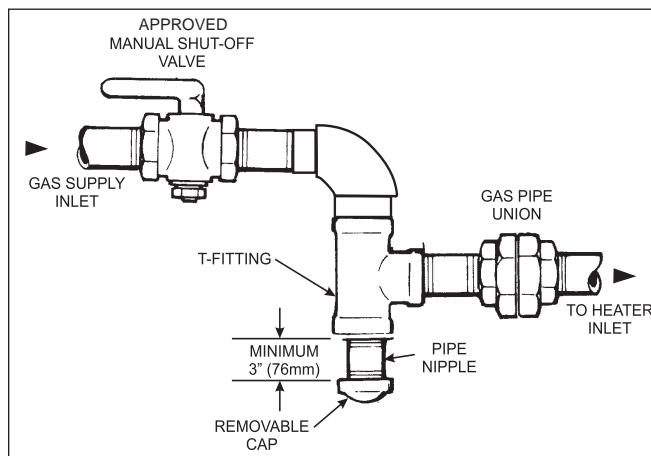

Figure 9. Proper Design for a Sediment Trap/Drip Leg
4. Install a sediment trap (drip leg) ahead of the gas controls (see Figure 9). Fit the trap with a threaded cap which can be removed for cleaning.